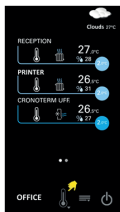

Fig.79
14.1.2 To disable it, press  ; Fig.79